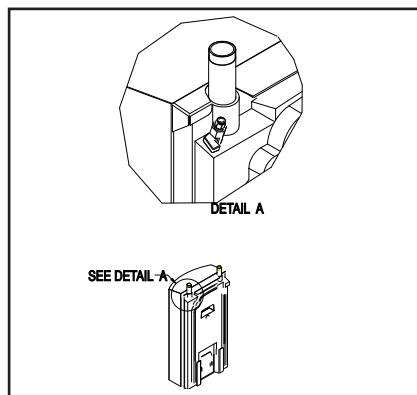

Fig. 10
1. Check that water- and air supplies for the system are open. (see A, Fig.10,air)
3. Close the air supply(A, Fig 10)